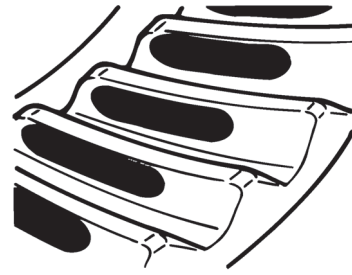

Figure 5.51
4. Look at the contact patterns on the ring gear teeth. Compare the patterns to Figure 5.51, Figure 5.52 and Figure 5.53.